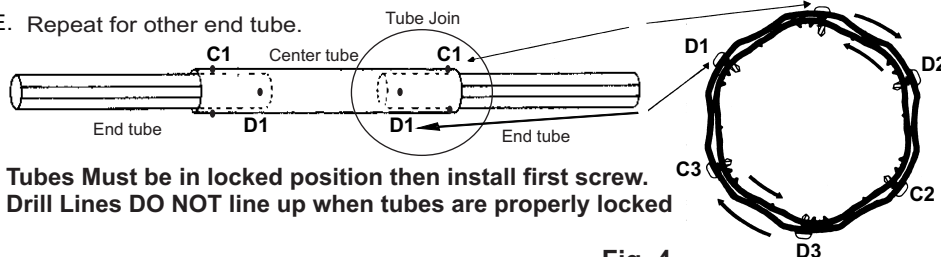

Fig. 4
- Lock tubes together by rotating the center tube in the opposite direction to end tube. **HOLD TUBES LOCKED WHILE YOU INSTALL FIRST SELF-DRILLING SCREW ON A DRILL LINE, 1" (2.5 cm) back from end of center tube at location "C1"** (Fig. 4 & 5). If necessary, a very small "pilot hole" may be drilled.
- Place 2 more self-drilling screws at Location "C2" and "C3" - 1 screw on every second Drill Line around tubes (see Fig. 4).
- At "D" locations, install 3 screws around the center tube on every second drill line, 1" (2.5 cm) back from where you marked the end of the inner tube (see Fig. 4).